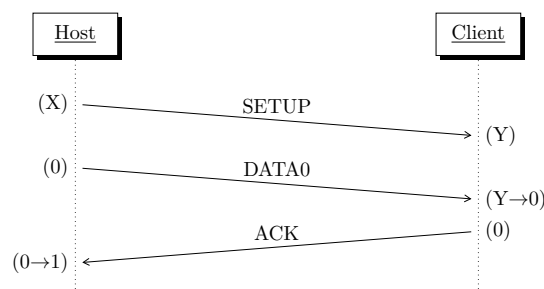

Figure 2.2: Synchronization of the data toggle sequence bits
B) To reduce the probability of errors during the handshake phase of a transaction, two data PIDs (DATA0 and DATA1) are used. The data PID is changed after every successful transmission. For that reason the sender and the receiver both have a „data toggle sequence bit“. At the receiver this only changes if correct data with a correct PID has been accepted. At the sender it changes when a valid ACK-Handshake is received. Both participants of a transmission first have to synchronize their bits during the setup phase of a control transfer (see Figure 2.2, the bracketed values correspond to the value of the „data toggle sequence bits“; at X/Y they are still undefined).